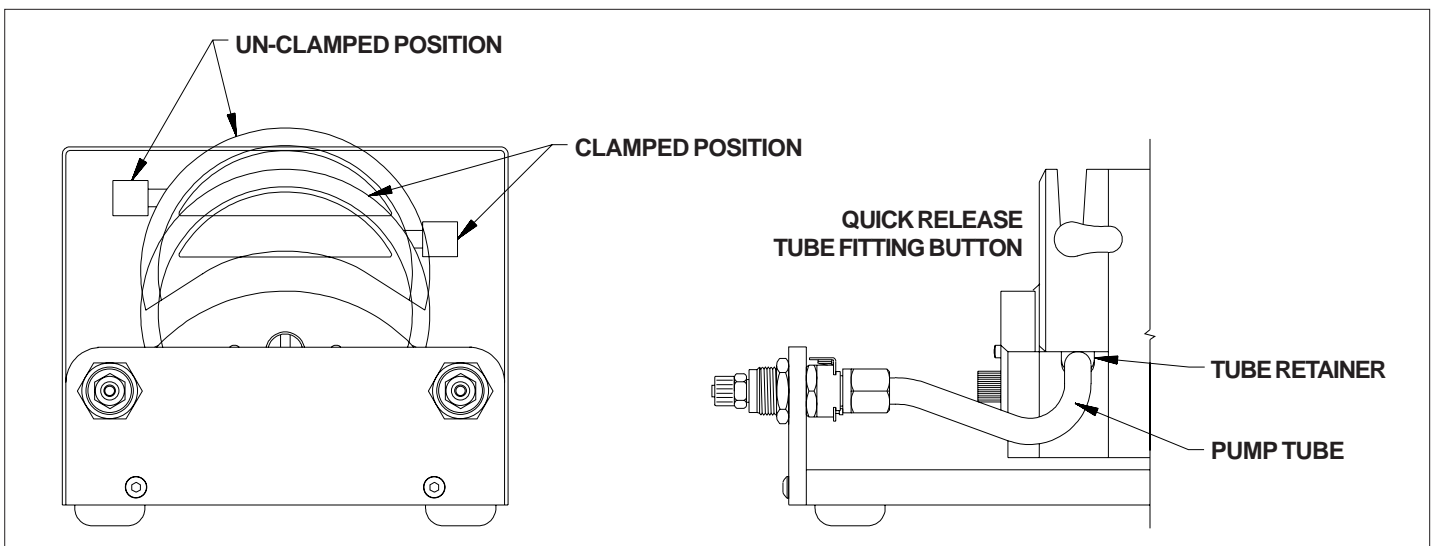

FIGURE 13
- 2 - Rotate the lever on the Pump Head to the left (CCW) to un-clamp the tube (Figure 13).